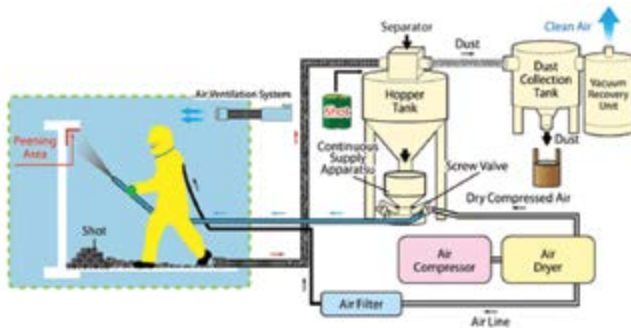

Fig.5 Circulating shot peening method
- As a preventive maintenance measure, a shot peening method was applied to improve the fatigue strength of welded joints with the same shape as those where cracks had occurred. A circulating shot peening method\* (Fig.5), which can be applied in parallel with repainting work, was used.